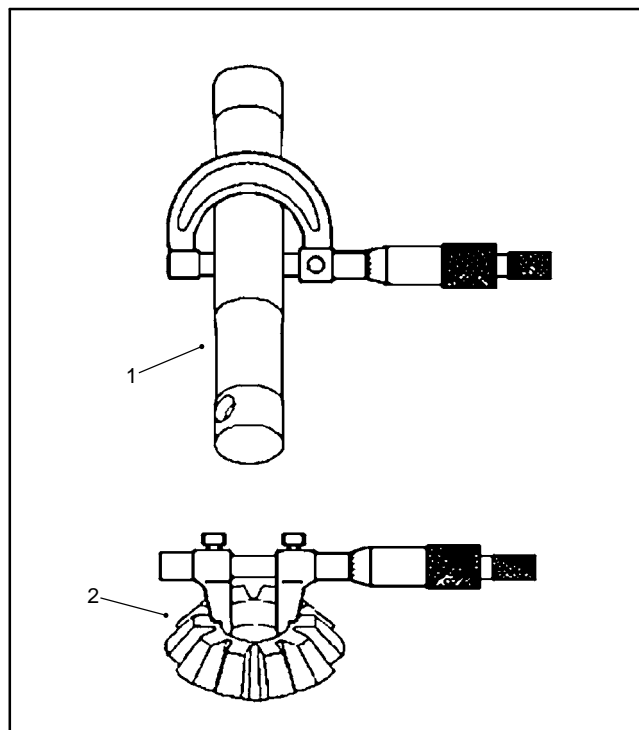

Figure 40
2. Measure the differential pinion shaft O.D. and the pinion gear I.D. to determine the pinion shaft to pinion gear clearance (Fig. 40). Replace components as necessary.